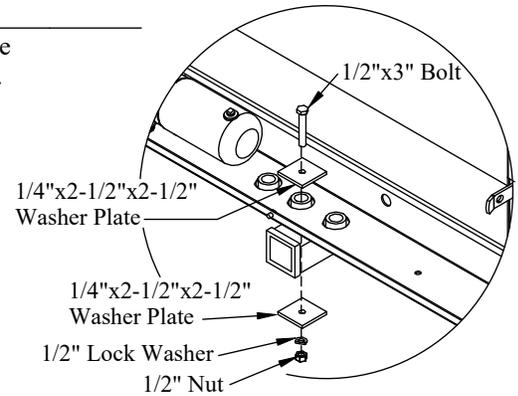

Figure 21: Lower bracket support (Class 4 hitch).
1. **Assemble** the supplied hardware through the center hole in the bottom of the liftgate mainframe and the center hole in the factory hitch plate on the truck (Figure 21).